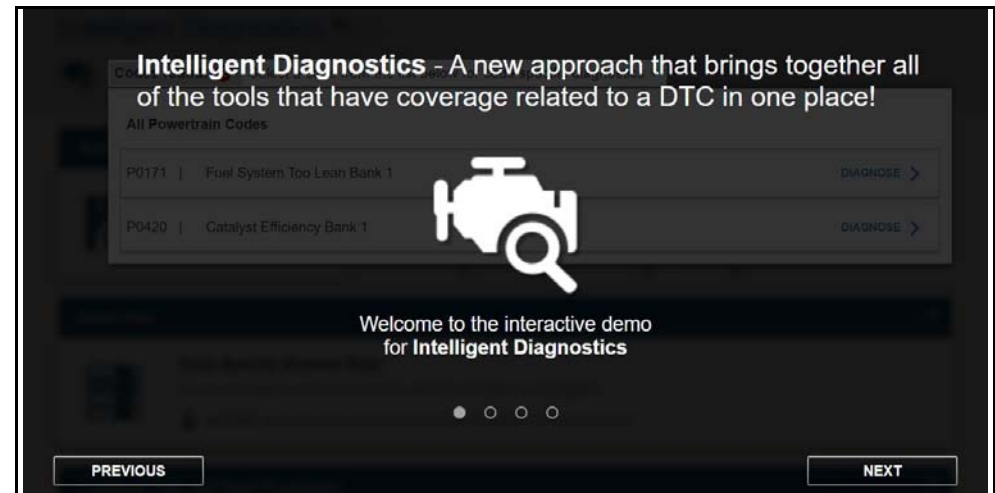

Figure 2-2 Intelligent Diagnostics Demo Welcome
3. Select **Next** on the Intelligent Diagnostics demo start screen (Figure 2-2), and the following screens to continue.